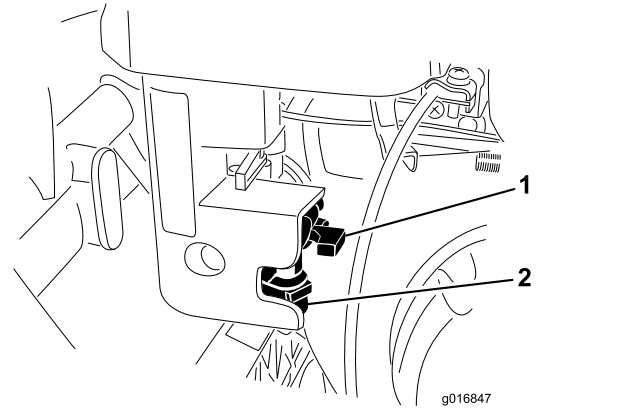

Figure 40
1. Close the fuel shut off valve and unscrew the fuel cup from the filter body (Figure 40).